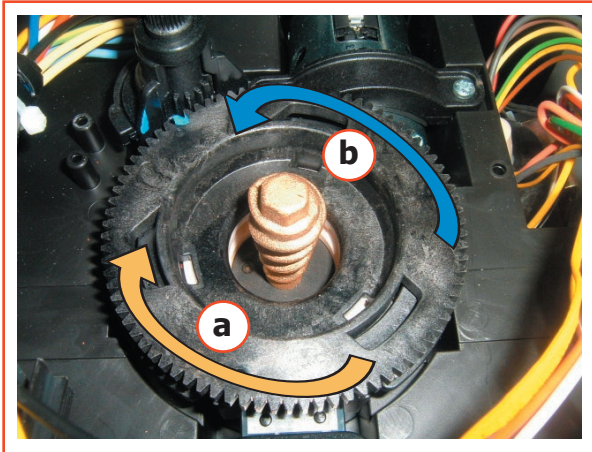

fig.1
- 1) Press the pin (pos.1 / fig.2) and rotate the ringnut (pos.2 / fig.2) clockwise (fig.1 / a) to fully tighten down the grinders (DO NOT FORCE).
- 2) The rotate the ringnut anticlockwise (fig. 1 / b) so that the two blue dots (on the upper ringnut and the activation button) are aligned (pos. 3 / fig.2).